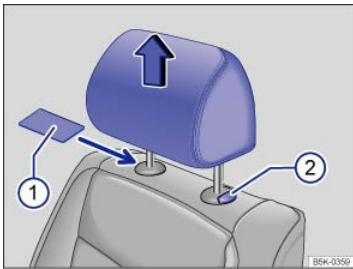

Fig. 41 Removing the front head restraints.
- Slide a flat object, such as a plastic credit card, underneath the right side of the cap on the right-hand seat guide rod ⇒ Fig. 41① to unlock the head restraint.
- To release the left-hand guide rod, press button ② in (towards guide rod) and hold.
- Pull the head restraint out completely while holding button ②.
- Push the head restraint down while pressing button → Fig. 41②.